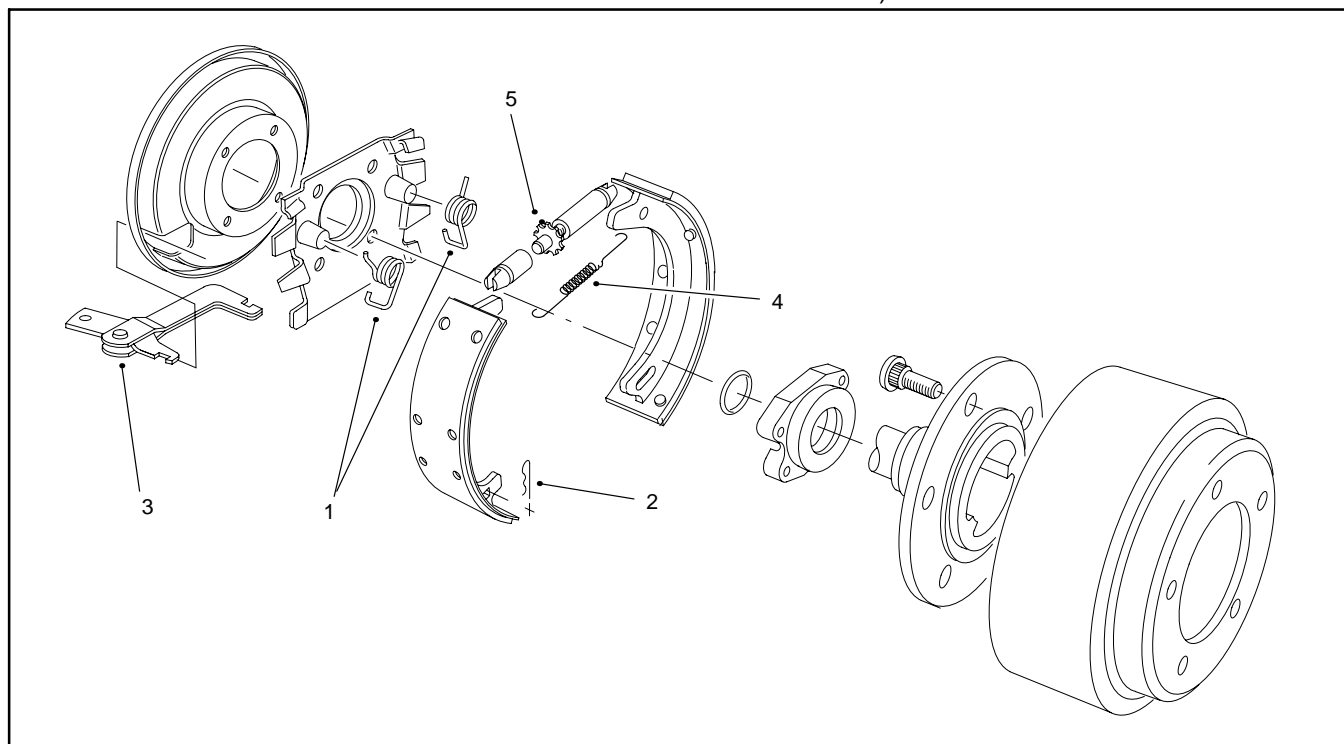

Figure 19
3. Remove brake shoe return spring (Fig. 19) by prying the end of the spring up and over its retaining boss. Use a brake spring pliers or flat blade screwdriver.
Wear a face shield when removing brake return spring (Fig. 19). The spring is under tension and could possibly slip during removal.